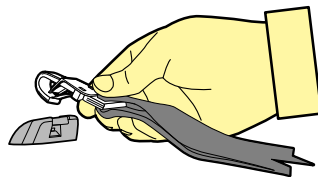

Figure 8
Step 5: Hook the attachment clip to the anchor fitting. **Ensure there are no twists in the top tether strap** (refer to Figure 8).